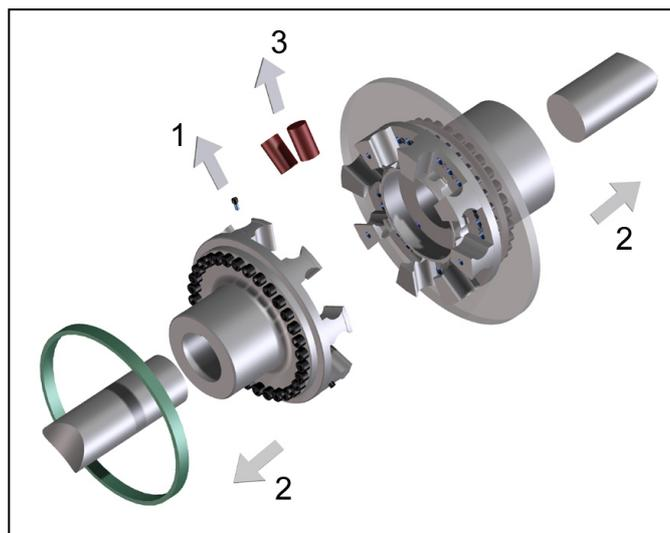

Fig. 3
- Unscrew the retaining screws at the retaining ring (Fig. 3, Pos.1) and deposit the ring on the appropriate shaft end (Fig 3, Pos. 2).
- Take out the elastic buffers (Fig 3, Pos. 3).
- Mount the coupling hubs in the proper position on the shaft ends (Fig 3, Pos.2).